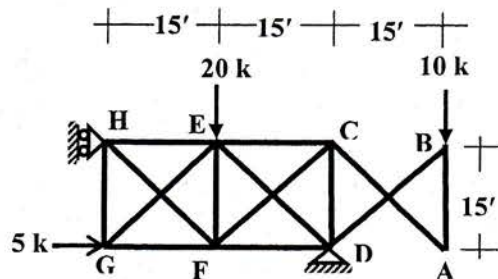

Figure 4
- [4] Determine the member forces HG, HF, ED and CD of the statically indeterminate truss shown in Figure 4. The diagonals can carry half the panel shear. (20)